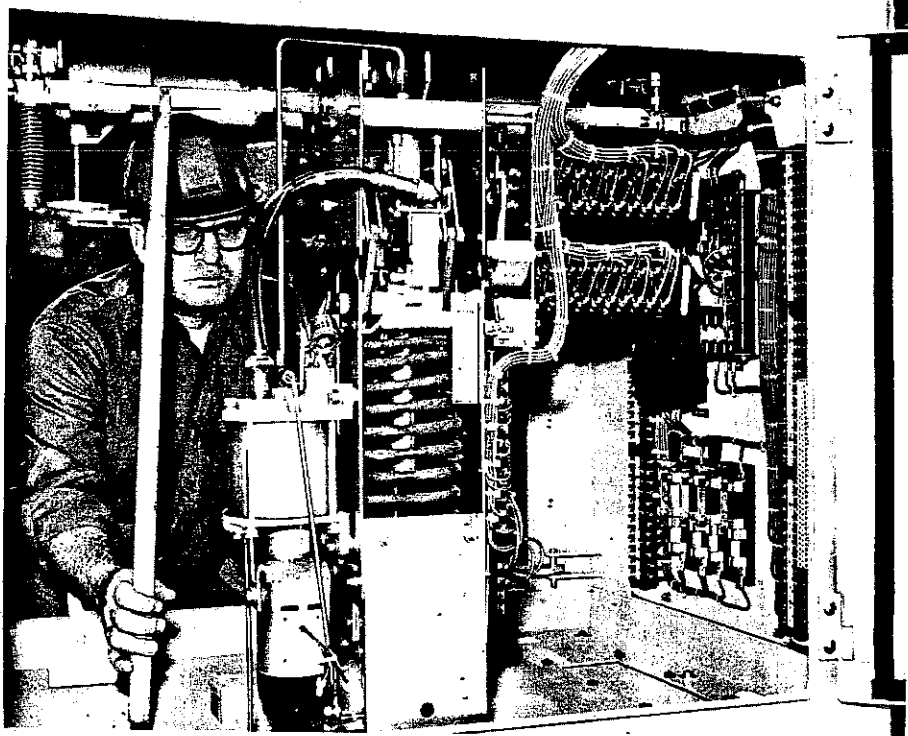

Figure 3. Maintenance positioning, rotation of jackshaft permits ease of contact adjustment during maintenance or interrupter change out.
- Position maintenance closing wrench as illustrated (Figure 3).